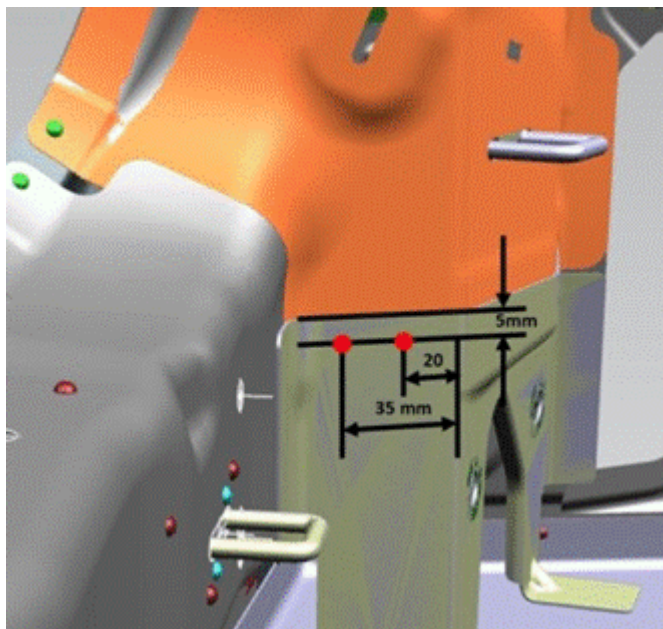

Figure 4. Location of 6.5mm holes to be drilled.
- Using the forward fold and the upper edge of the lower support bracket as a guide measure and mark 20mm and 35mm rearward from the fold and 5mm from the upper edge of the lower support bracket on the left corner. In these two spots shown in the measuring schematic in Figure 4 drill two 6.5mm holes through both panels as located by the red dots. Make sure to completely de-burr these drill holes.